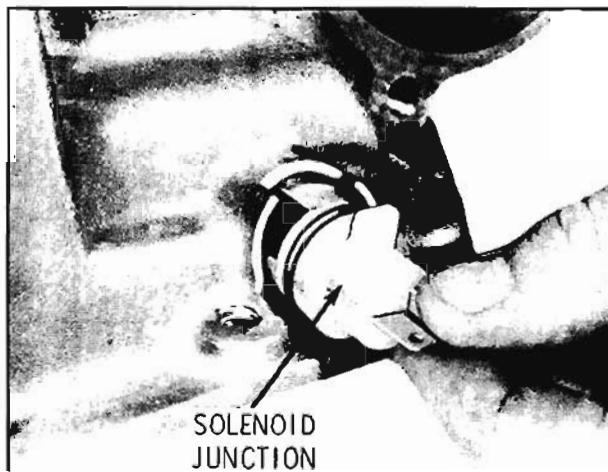

Fig. 6-466 Installing Solenoid Junction
10. Install solenoid junction into case. (Fig. 6-466)